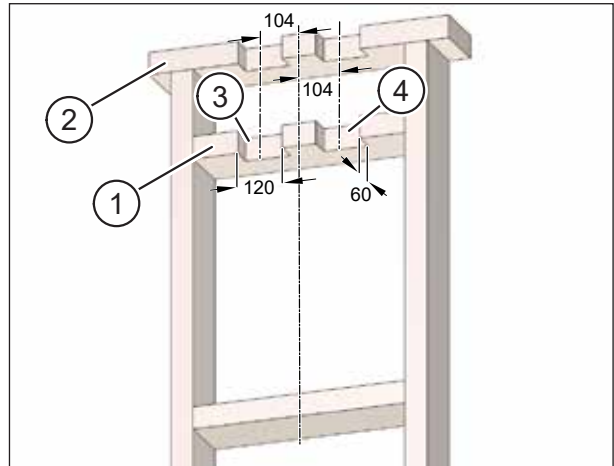

Fig. 46: Sawing channels for flat ductwork, dimensions in millimetres
- ▶ Saw two channels for the extract air duct (item 3 in Fig. 46) and supply air duct (item 4 in Fig. 46) in the upper batten (item 1 in Fig. 46) and the ceiling joist (item 2 in Fig. 46).